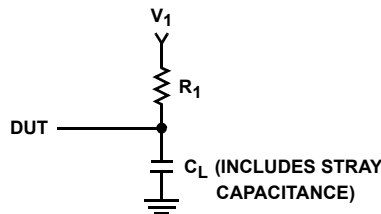

FIGURE 4.
7. See Load Test Circuit, Figure 4, $R_1 = 10k\Omega$, $C_L = 50pF$.